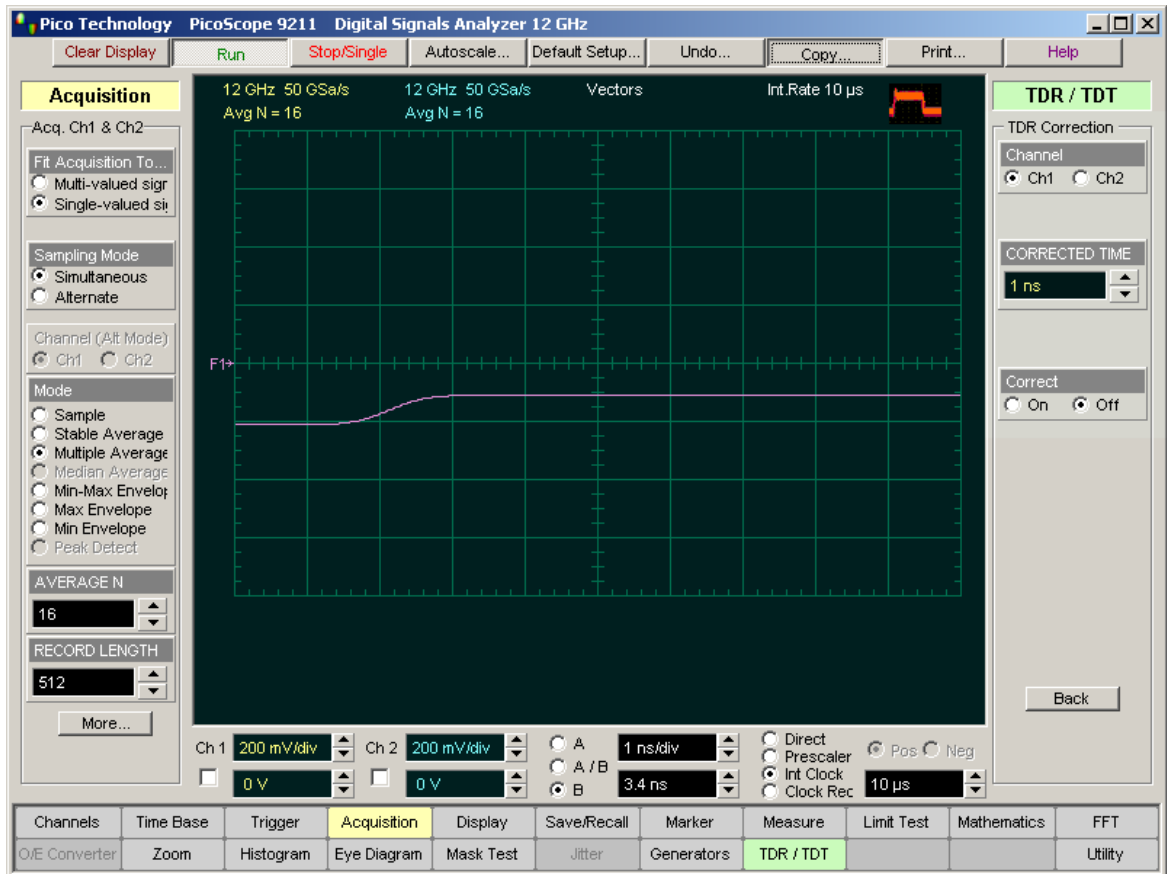

Figure 1
10. Remove the 50-ohm termination, then connect a short. See Figure 1 with corrected reflection function (F1) from the short. In comparison with the uncorrected response, the corrected response has much lower distortion.